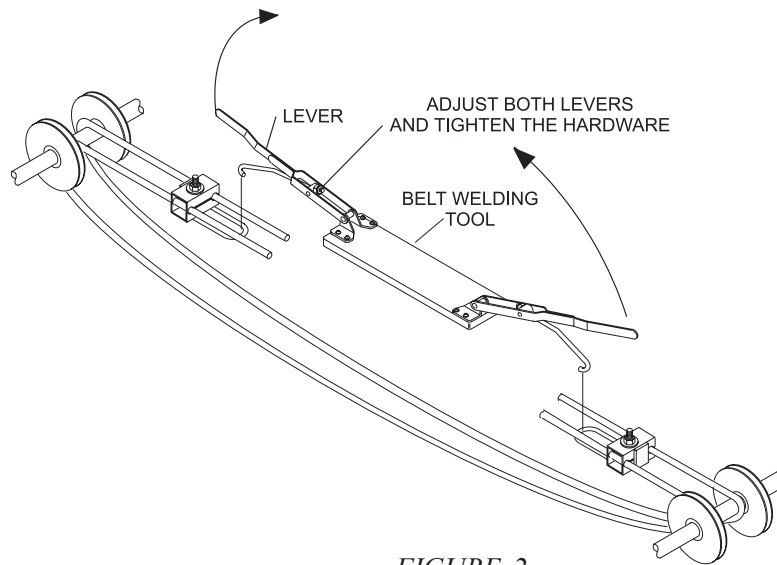

FIGURE 2
2. Attach the lever hooks to the U-clamps, with the levers fully open as shown in *Figure 2*.